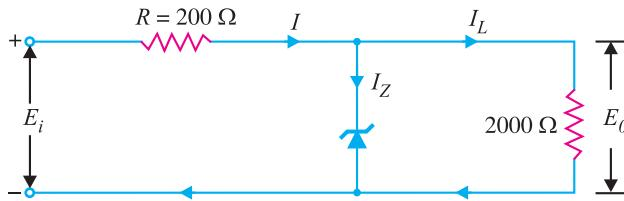

Fig. 6.68
**Example 6.32.** Over what range of input voltage will the zener circuit shown in Fig. 6.68 maintain 30 V across 2000  $\Omega$  load, assuming that series resistance  $R = 200\Omega$  and zener current rating is 25 mA?